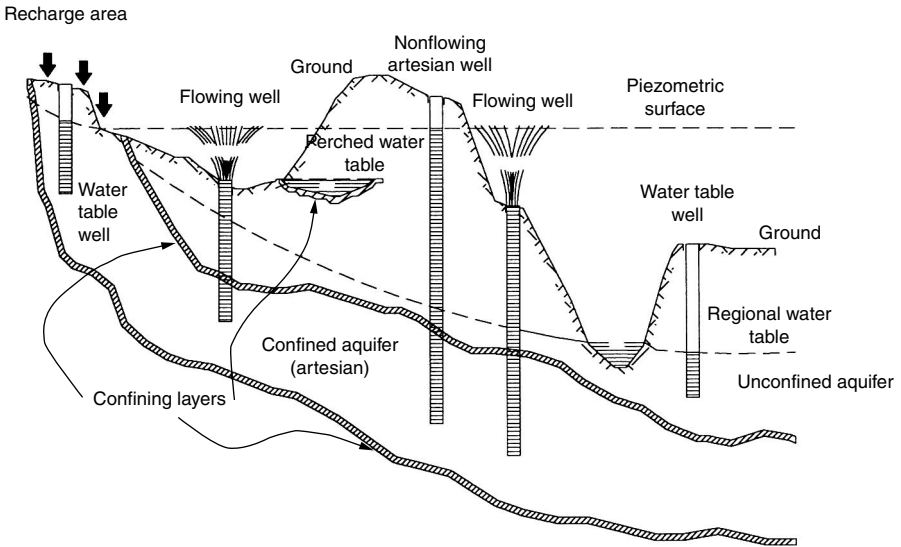

FIGURE A-1 Aquifers and wells.
**Aquifer** An underground geologic formation, or group of formations, containing usable amounts of groundwater that can supply wells and springs (EPA Glossaries). The water-bearing formation or structure usually consists of saturated sands, gravel, fractures, or cavernous and vesicular rock. *See also* aquiclude; aquifuge; aquitard; subsurface water. Figure A-1 illustrates
**Artesian aquifer** An aquifer in which groundwater is confined under pressure that is significantly greater than atmospheric pressure. It is a fully saturated formation of porous rock or soil, overlaid by a confining layer. The potentiometric surface (or hydraulic head) of the water in a confined aquifer is at an elevation that is equal to or higher than the base of the overlying confining layer. Discharging wells in a confined aquifer lower the potentiometric surface, which forms a cone of depression, but the saturated medium is not dewatered. Same as **confined aquifer**. *See* aquifer; Figure A-1.
**Artesian well** A well that penetrates an artesian aquifer. It is a flowing or non-flowing well, depending on whether the piezometric surface is above ground or not, respectively, i.e., whether or not it discharges above ground. *See* Figure A-1. The opposite is a **phreatic** or **water-table well**.